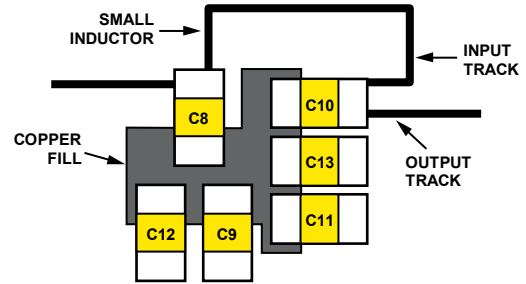
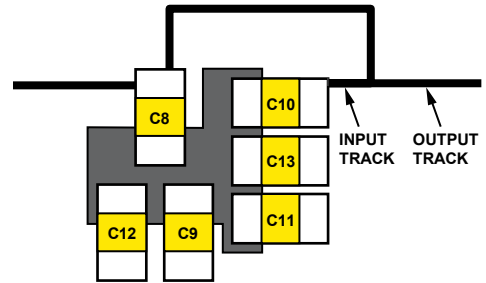

Figure 5. Placement and Routing for Decoupling Capacitors
Figure 6. Wrong Routing for the Inductive Track Output Decoupling Capacitor
3. Place the decoupling capacitors for the beads, C8, C9, and C12, as close to the amplifier chip as possible, and connect all their ground terminals together as close as possible. Ideally, solder their ground terminals together, as shown in Figure 5; do not rely on PCB tracks or ground planes for connecting their ground terminals together.
4. The 1 nF capacitor and the ferrite bead can block the EMI for up to 250 MHz. To eliminate EMI higher than 250 MHz, place a low value small size capacitor, such as a 100 pF, 0402 size capacitor, in parallel with the 1 nF decoupling capacitor. Place this small capacitor a short distance away from the 1 nF capacitor and use the PCB connection track as an inductor to form a PI shape low-pass filter, as shown in Figure 5.
5. If implementing a PCB track PI filter, the arriving input PCB track and the leaving output PCB track connection to the decoupling capacitor should not be connected. The correct layout example is shown in Figure 5. The incorrect layout is shown in Figure 6.